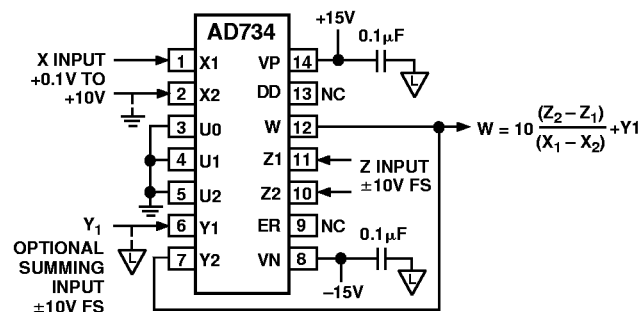

Figure 8. Standard (AD534) Divider Connection
the AD734 can be operated using the standard (AD534) divider connections (Figure 8), when the negative feedback path is established via the Y_2 input. Substituting W for Y_2 in Equation (2), we get
Figure 8 shows the connections for the standard (AD534) divider mode. Feedback from the output, W , is now taken to the Y2 (inverting) input, which, provided that the X-input is positive, establishes a negative feedback path. Y1 should normally be connected to the ground associated with the load circuit, but may optionally be used to sum a further signal to the output. If desired, the polarity of the Y-input connections can be reversed, with W connected to Y1 and Y2 used as the optional summation input. In this case, either the polarity of the X-input connections must be reversed, or the X-input voltage must be negative.